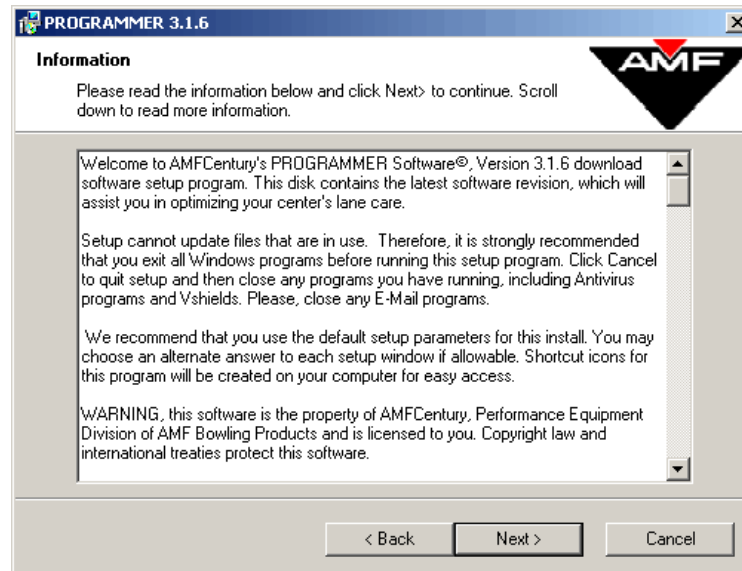

Figure 1-5
- The screen that follows displays copyright and general information about installing the program properly (**Figure 1-5**). It is advised that all Windows programs currently running should be closed before proceeding any further in the installation. Once this has been done, click <Next>.